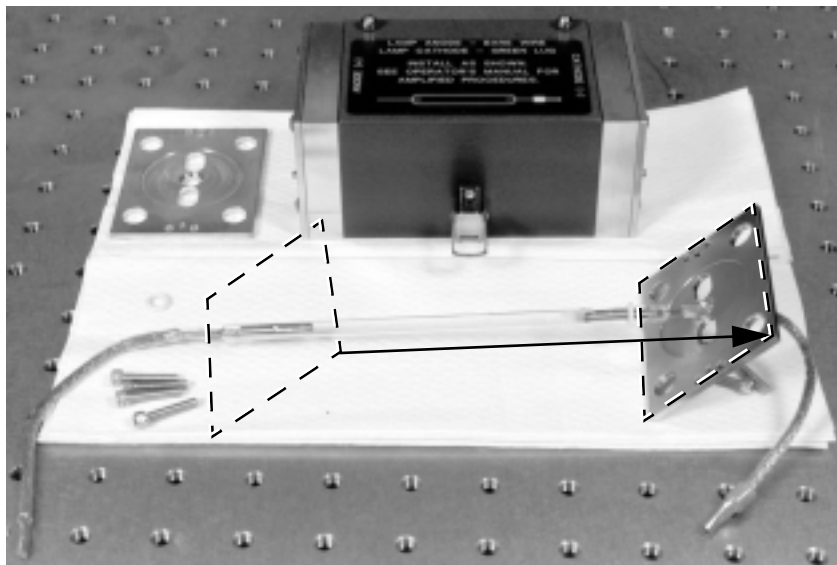

Figure 6-10. Position the Endplate and the O-ring as Shown
3. Thread the lug-free end through the right end plate. The side on which the lamp hole is beveled goes against the POT, Figure 6-10.
4. Thread one O-ring over the left lead and slide it across the lamp to a position about 5 mm from the right end of the glass envelope, Figure 6-10. Use the piece of plastic tubing supplied with the flash lamp to push the O-ring across the lamp envelope.